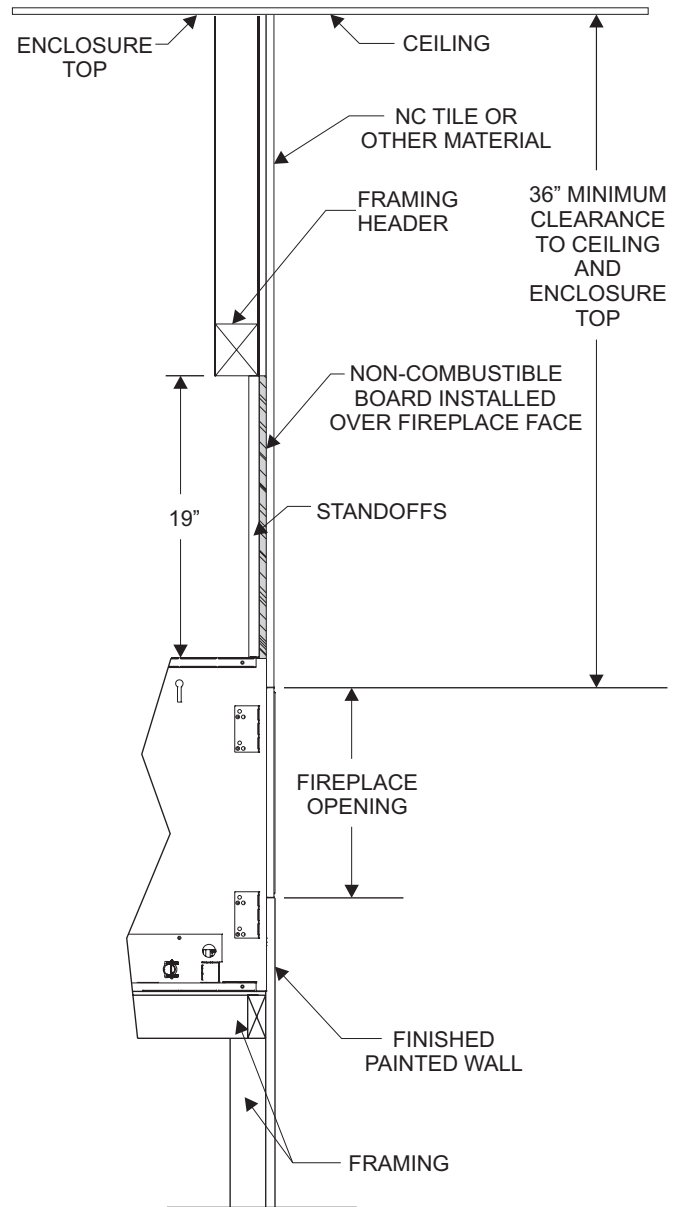

**Figure 48**
- Screws are allowed in framing and top mounting brackets. No screws are allowed into the fireplace face. **See Figure 48.**